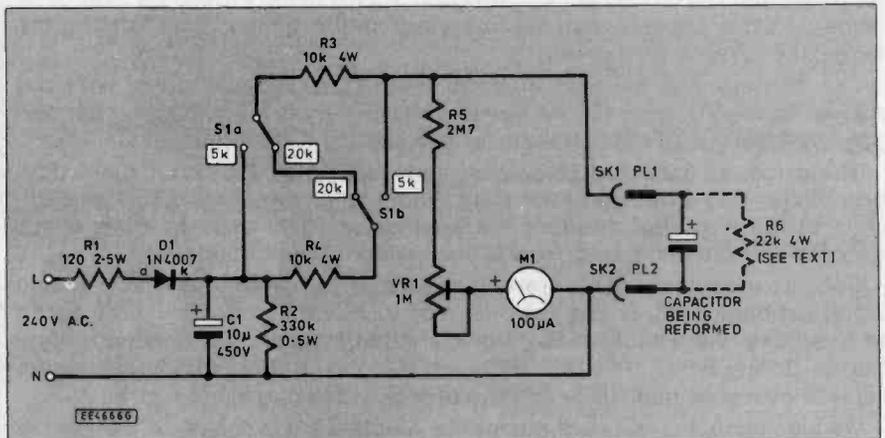

Fig. 1. Circuit diagram for the heart of the HV Capacitor Reformer.
The circuit diagram for the heart of the Capacitor Reformer is shown in Fig.1. Diode D1 acts as a half-wave rectifier, allowing capacitor C1 to charge to the mains peak voltage ($240V \times 1.414 = 340V$ d.c.) with no load present. On load, there will be some ripple present as the current drawn increases, but this seems to help the reforming operation.
If an isolation transformer is not used, the mains neutral must go to the circuit's negative (N) power rail as shown on Fig. 1.